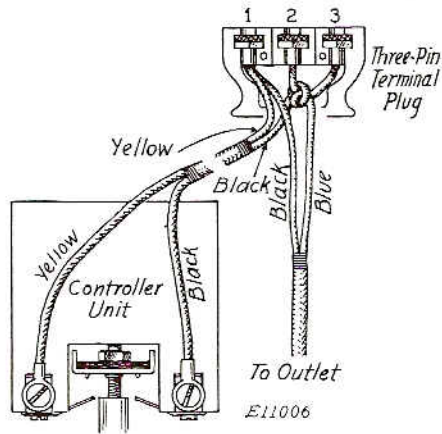

FIG. 3. THREE-PIN TERMINAL PLUG AND FOOT CONTROLLER WIRING DIAGRAM
**Controller Leads**—Fasten the lead with the **yellow** tracer thread to terminal No. 1 and fasten the solid **black** lead to terminal No. 2, as indicated by Fig. 3, Wiring Diagram.
**Electric Service Leads**—Fasten the **black** wire to connection No. 1 and fasten the **blue** wire to connection No. 3 of the terminal plug, as shown in Fig. 3.
(SEE FIG. 3—WIRING DIAGRAM)